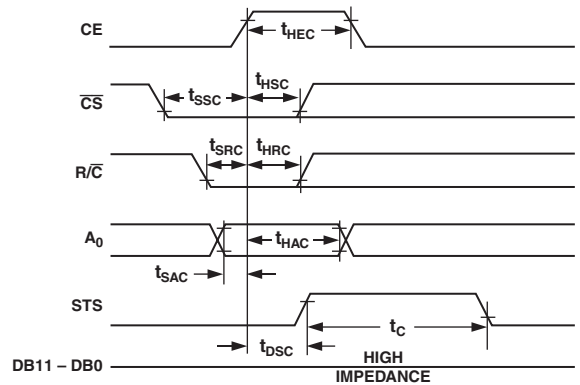

Figure 1. Convert Start Timing
**CONVERTER START TIMING (Figure 1)**